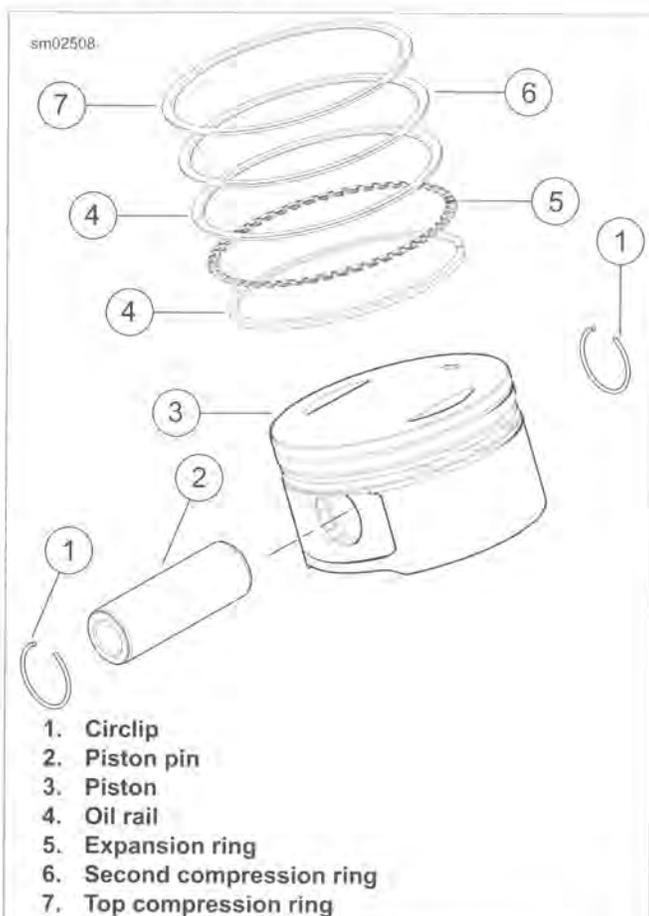

Figure 3-58. Piston Assembly
1. See Figure 3-58. Carefully remove top (7) and second (6) compression rings using the proper PISTON RING EXPANDER (Part No. Snap-on PRS8).
2. Using your fingers, remove top and bottom oil rails (4) from the third ring groove. Remove the oil rail expansion ring (5).